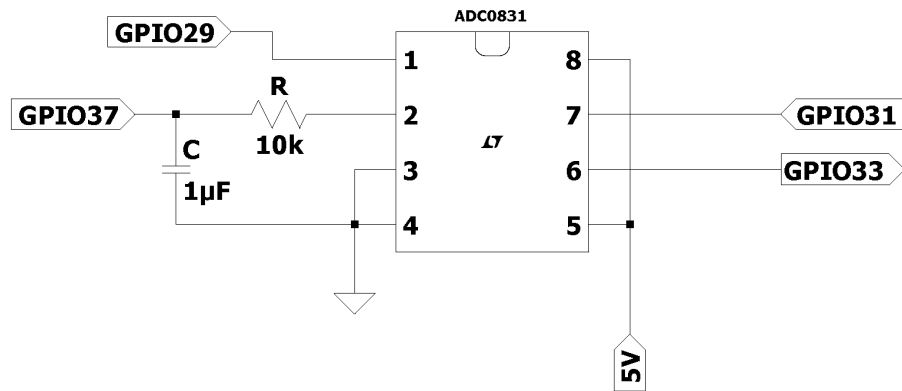

Figure 1: This is the schematic for the ADC capacitor discharge circuit.
The *real* world is continuous, lacking discrete values that can be read into the realm of digital electronics. The Raspberry Pi uses digital logic, 1's and 0's for its operation. To analyze the real world with the Pi, there must be some sort of translation between the analog and discrete signals. To accomplish this, an analog to digital converter (ADC) chip can be used. The specific integrated circuit (IC) used for this activity was the ADC0831, which is an 8 bit ADC. The data of interest was the discharge curve of a capacitor at various resistances. The circuit schematic is shown in figure 1. A simple data logging script was written with the general flow shown in 2. The actual script is shown at the end of this report.